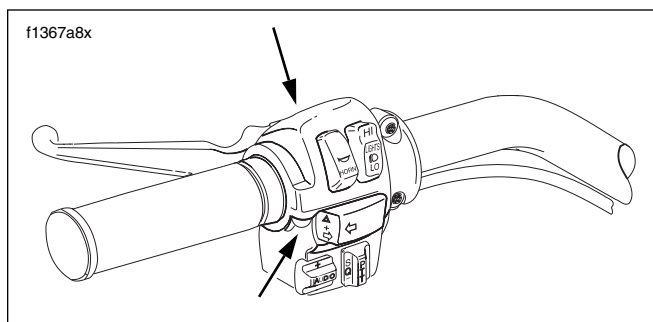

Figure 2-23. Left Handlebar Switch Housing Screws
3. See Figure 2-23. Remove left side upper and lower switch housing screws. Carefully separate housing halves from handlebar.